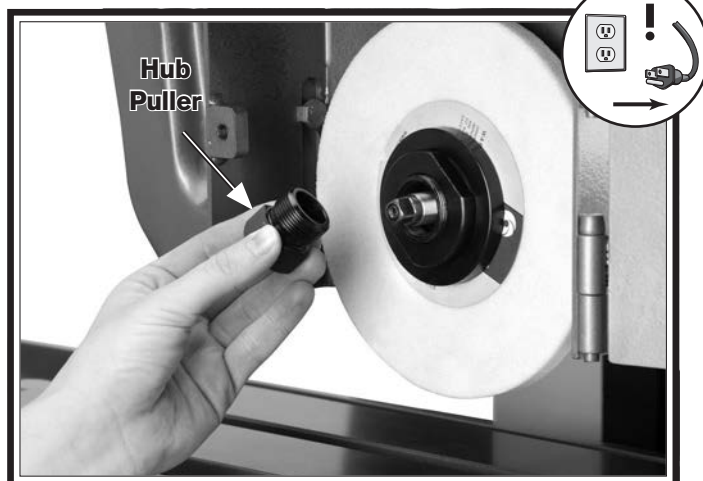

Figure 32. Hub puller installation.
6. Oil the threads and thread the hub puller (see **Figure 32**) into the hub until it stops.